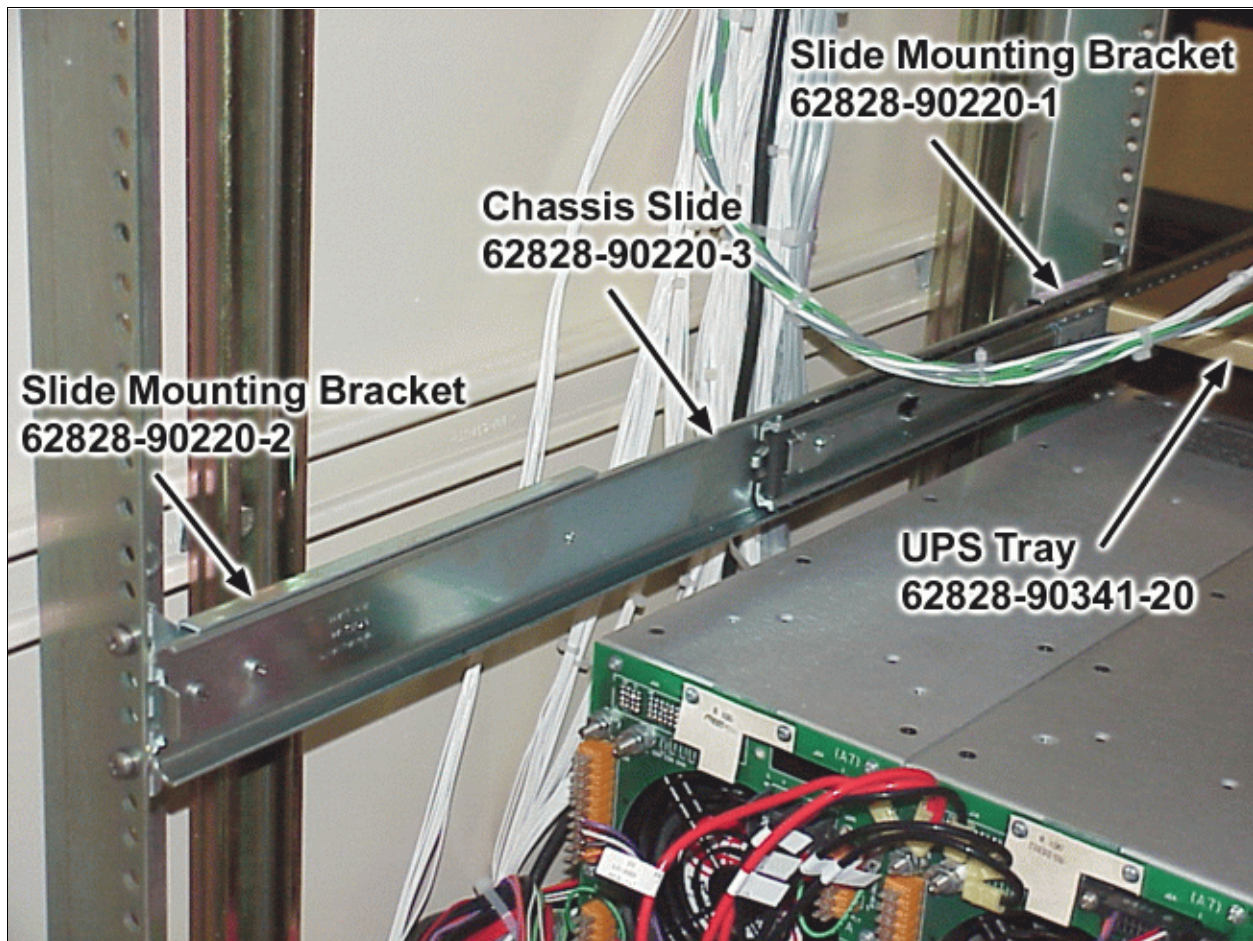

Figure 2 Chassis Slide and Mounting Brackets
10. In the ACU cabinet, attach the slide mounting brackets (62828-90220-1 and -2) to the chassis slide using the appropriate hardware (MS51957-44, MS35338L-137, and MS15795-807). The slides should be positioned immediately above the DC power supply in position A4. Ensure the front of the chassis slide is flushed with the small slide mounting bracket. Refer to figure 2.